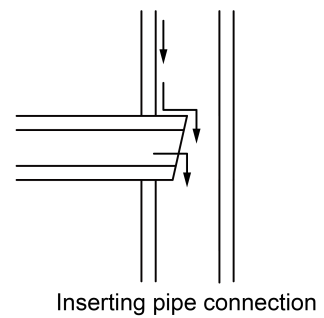

Fig.4.3.8
- No.3: Inserting pipe connection (Fig.4.3.8).